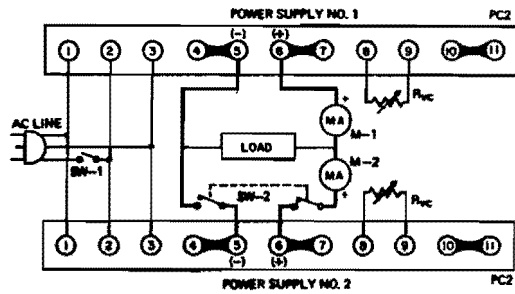

FIG. 3-13 PARALLEL CONNECTION OF
3-45 PROCEDURE (Refer to FIG. 3-13)
- a) Connect units as shown in FIG. 3-13. Open SW-1 and SW-2 and connect to line.